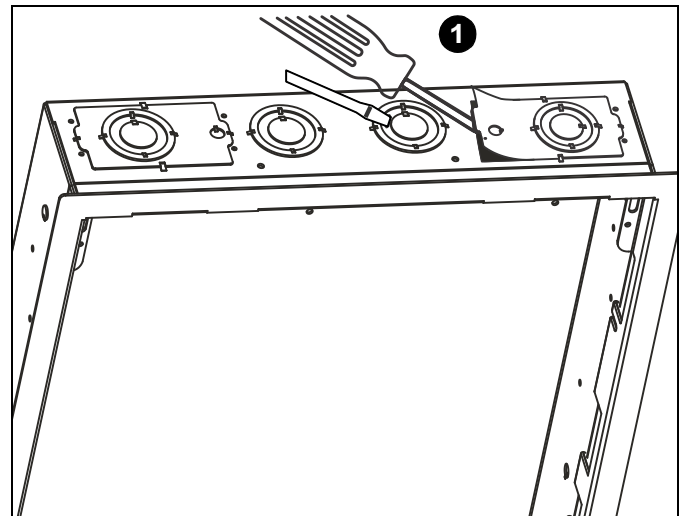

Figure 6
1. Remove knock-outs as determined in Step 4 of **Locating PAC527L** section. (See Figure 6)